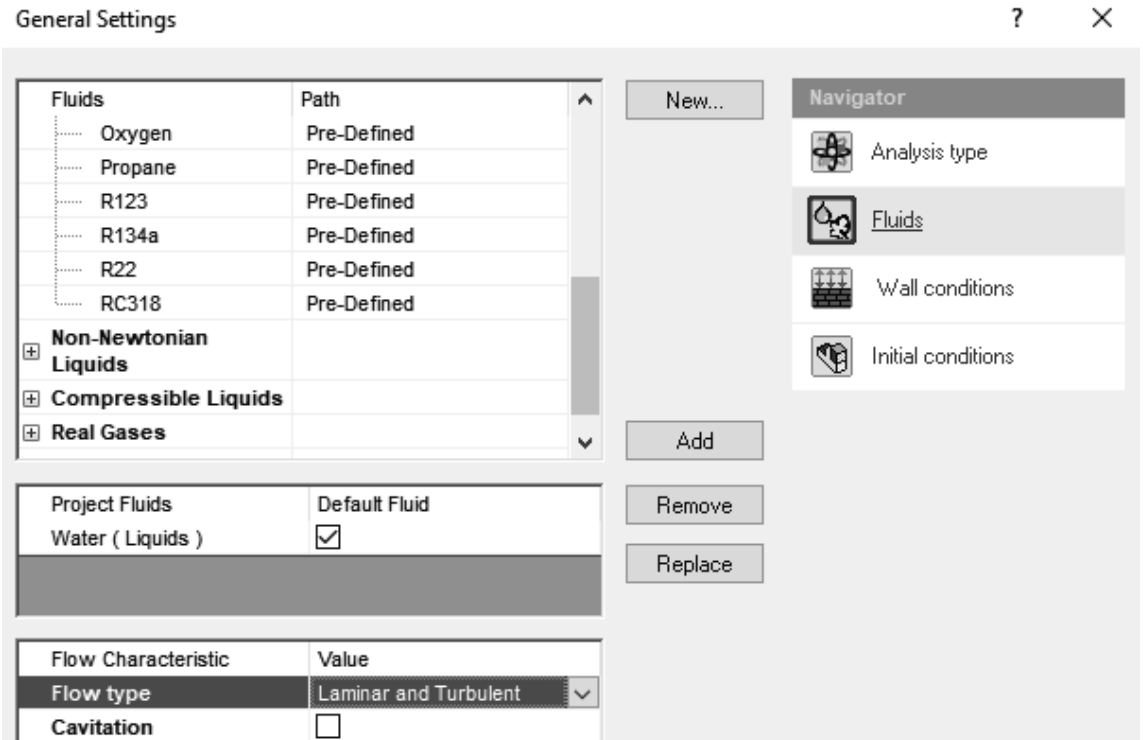

Figure 2.27d) Selection of fluid and flow type
27. In the next step, we will clone the project. Select **Tools>>Flow Simulation>>Project>>Clone Project...** Enter the Project Name “**Flat Plate Boundary Layer Study Using Water**”. Select **Create New Configuration** and exit the **Clone Project** window. Next, change the fluid to water in order to get higher Reynolds numbers. Start by selecting **Tools>>Flow Simulation>>General Settings...** from the SOLIDWORKS menu. Click on **Fluids** in the **Navigator** portion, select **Air** and click on the **Remove** button. Select **Water** from the **Liquids** and **Add** it as the **Project Fluid**. Change the **Flow type** to **Laminar and Turbulent**, see figure 2.27d). Click on the **OK** button to close the **General Settings** window.